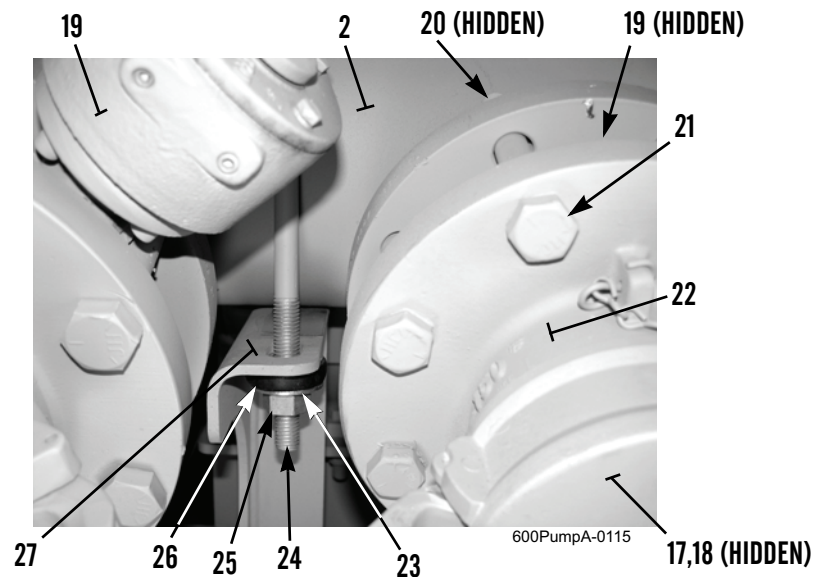

Figure 12. Discharge Manifold Mounting.
12. Install two U-bolts (Figure 12, Item 24) over discharge manifold (Figure 12, Item 2) and through two welded mounting brackets (Figure 12, Item 27).
13. Install two shock mounts (Figure 12, Item 26), four washers (Figure 12, Item 23), and two nuts (Figure 12, Item 25) on each U-bolt (Figure 12, Item 24). Tighten nuts to 60 lb-ft (81 Nm).
14. With assistance, position gate valve (Figure 12, Item 19) and discharge outlet flange (Figure 12, Item 22) at outlet flange of discharge manifold (Figure 12, Item 2). Install eight bolts (Figure 12, Item 21) and new locknuts (Figure 12, Item 20). Tighten locknuts to 60 lb-ft (81 Nm).
15. Ensure gasket (Figure 12, Item 18) is fully seated in groove of cover (Figure 12, Item 17). Install cover on discharge outlet flange (Figure 12, Item 22).
16. Repeat steps 14 and 15 to install fittings on two remaining outlet flanges (Figure 12, Item 22).